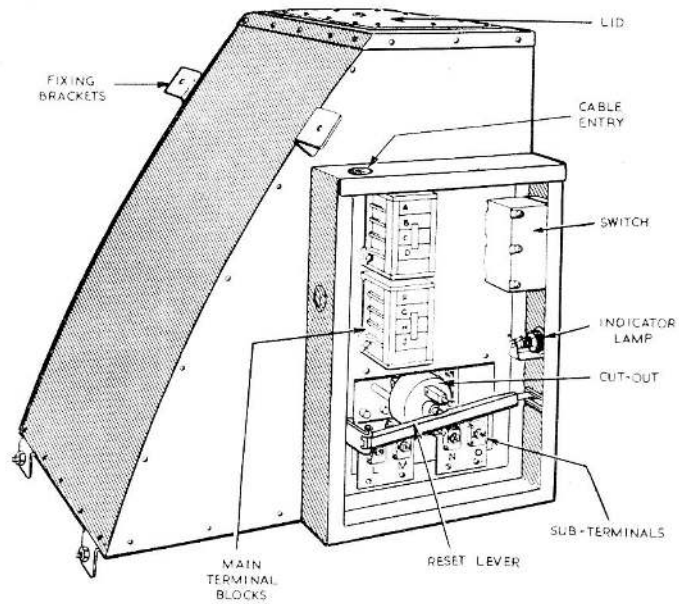

Fig. 3. Urn, G.E.C. Type H.E. 46483 M1 with side cover removed
9. The water contents gauge, shown partially sectioned in fig. 3, may be renewed by removing the inner locknuts from the top and bottom arms, and withdrawing the assembly. The gland cap on the new contents gauge should be slackened off before attempting to fit the gauge to the urn. When fitting the gauge ensure that the screwed shanks of the top and bottom arms pass through the distance tubes inside the lagging space. Bosswhite jointing compound should be smeared on the new washers and on the threads of the top and bottom arms before the locknut is secured. After fitting the gauge to the urn tighten down the gland cap on the bottom arm and then adjust the glass press ring in the top arm as necessary. A new gauge glass or guard may be fitted by gaining access through the top plug and removing the glass press ring, the guard and the glass can then be removed by passing them through the top arm.